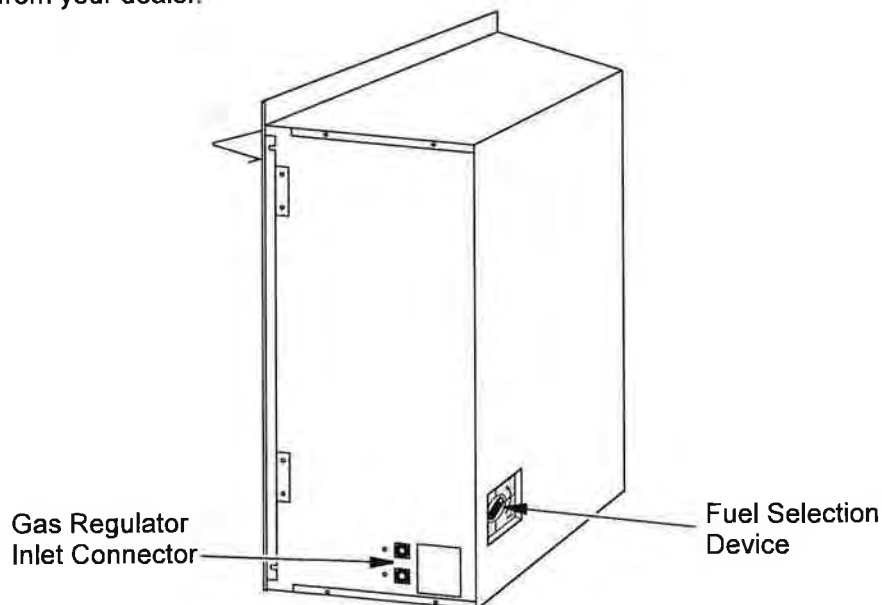

Figure 14 - Gas Regulator Location and Gas Line Access into Fireplace Cabinet
1. Remove 2 screws from cover plate to expose fuel selection device (see Figure 14, page 15).